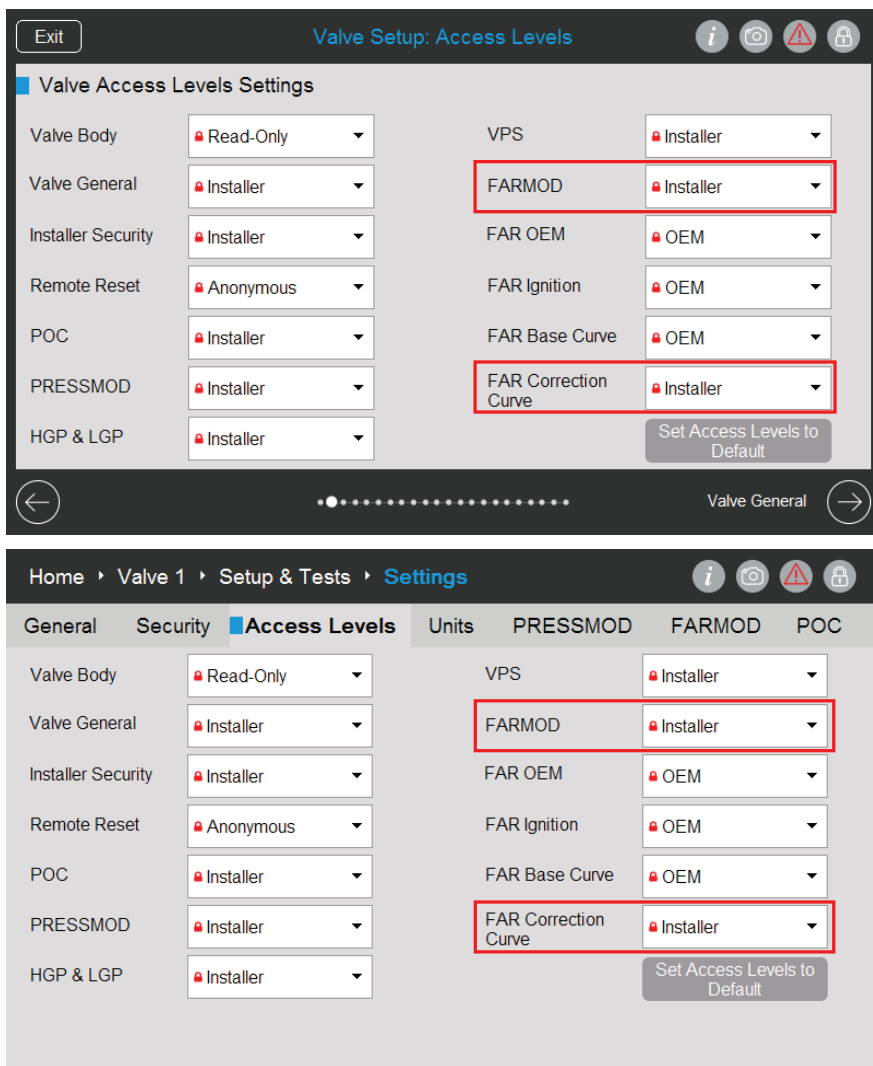

Fig. 123: Access Levels assignment screen.
- **In order for the Installer to perform the FARMOD replacement in the field, the OEM must grant them access to the following Valve Access Levels Settings. Refer to Fig. 123 and Table 24.**